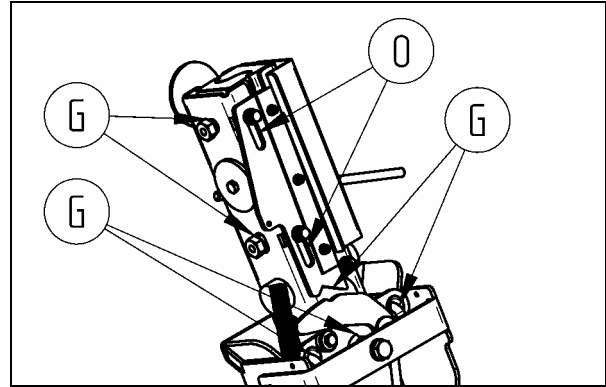

fig. 33 – Lubrication points of the pliers
Before to operate on the parts under the cradle, position the safety lock (F) as indicated in fig. 33.
- Lubricate the pliers (fig. 33) with grease on the points earmarked with letter G and with oil on the points earmarked with letter O.